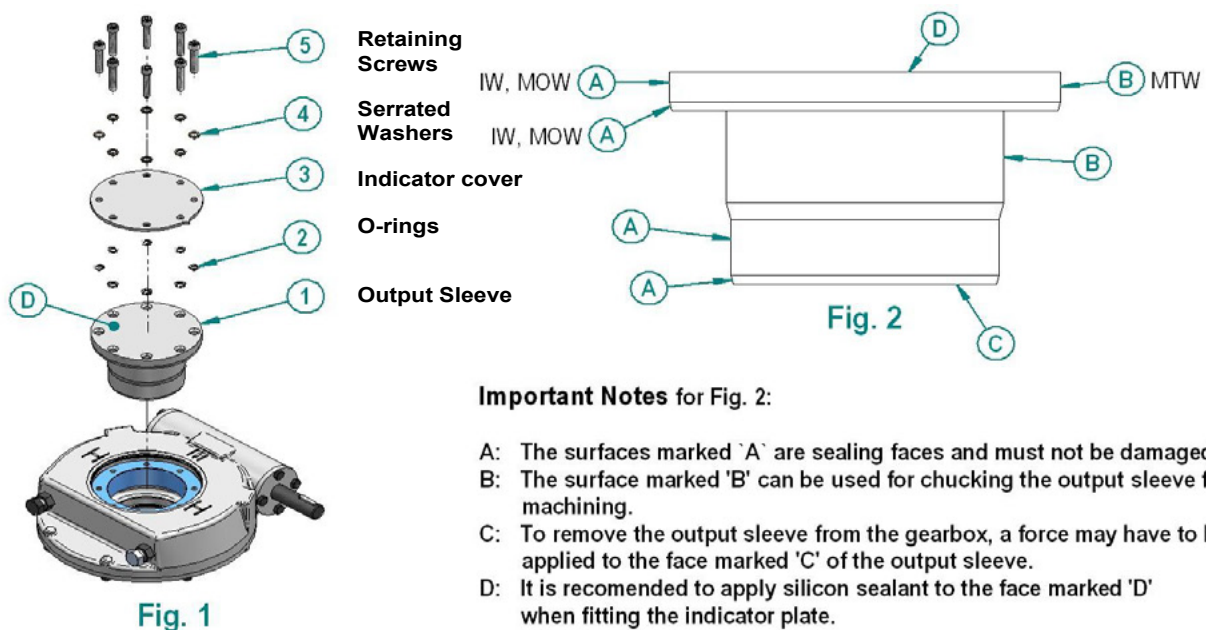

Fig. 1
Gearbox sizes IW12 to IW16 have an output which will be directly machined as specified with order. All other worm gearbox combinations have a removable output sleeve (1) See Fig. 1. Unless specifically requested at the ordering stage, the output sleeve will be supplied blank and must be machined to suit the valve shaft.
Fig.1 shows the removal of the output sleeve from the gearbox. See Fig.2 for removing the output sleeve without damaging the sealing faces.
As detailed in Fig. 1 and Fig. 2, it is recommended that silicon sealant is used to seal the indicator/cover plate to the output sleeve by applying sealant to the face marked D. Taking care not to apply sealant to the o rings (2) or the sealing faces of the o rings.